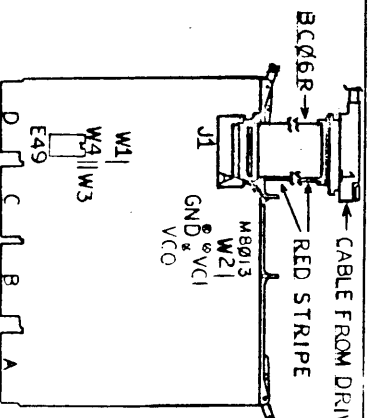

FIGURE 2: M8Ø13 JUMPER LOCATIONS
M8Ø13 Jumper Configuration (See Fig. 2 for Jumper locations)
A. Setup switches and jumpers as indicated in tables 1 and 2 for type of ROM, standard Device Address 1744ØØ, and Vector Address 16Ø. See Figures 2 and 3 for switch and jumper locations. For non standard device and Vector Address settings use Table 2 setting corresponding address or Vector switch on for a 1 off for a 0.